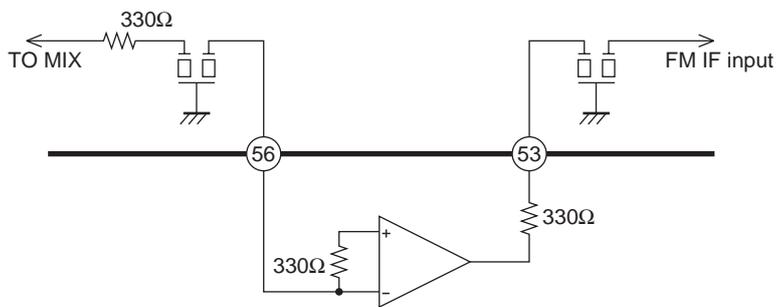

Fig. 12
- Figure 12 shows the type of FM first IF amplifier used in this IC. It is a differential single-stage amplifier.